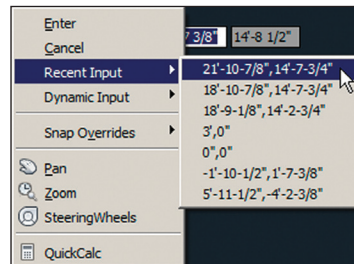

FIGURE 2.13 Drawing a new line from the end of the previous line
- Right-click in the drawing canvas and hold (for longer than 250 milliseconds) to open the context menu. Select the first coordinate value from the Recent Input menu (see Figure 2.13).